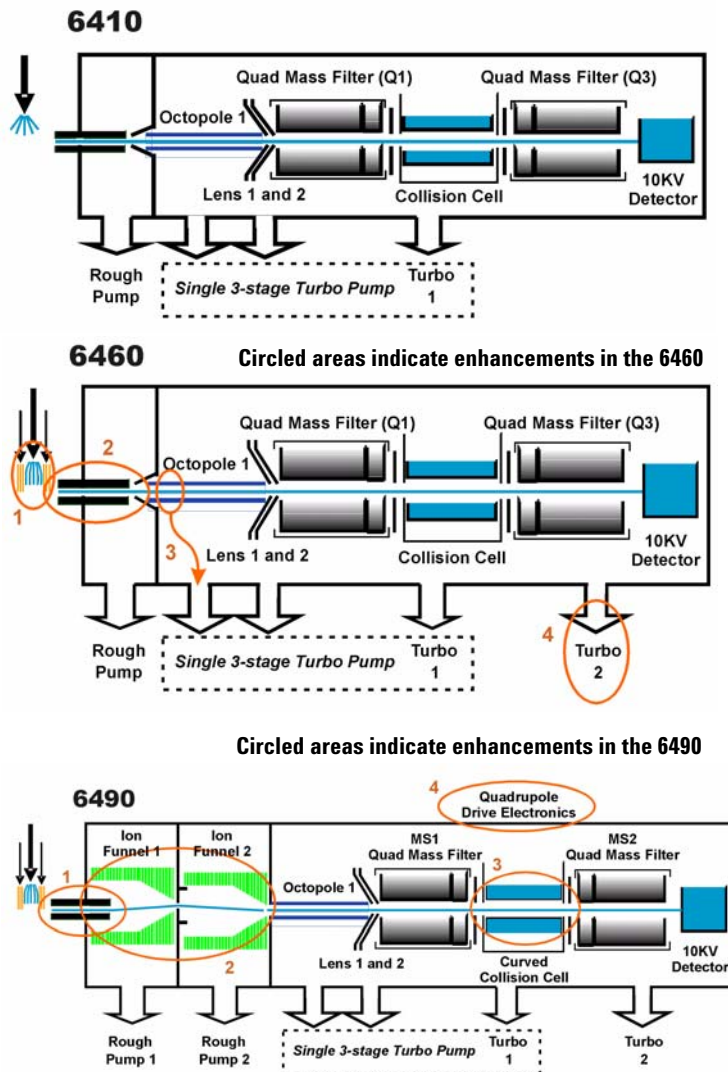

Figure 7 Innovative Enhancements in the 6460 and 6490
The triple quadrupole mass spectrometer consists of an ion source, enhanced desolvation technology, followed by ion optics that transfer the ions to the first quadrupole positioned to the right of it. A diagram of the current Triple Quadrupole LC/MS products is shown in Figure 7.
Ions are generated using an electrospray ion source where the analyte is simultaneously ionized and desolvated from the liquid matrix. The first of five (5) innovative Agilent enhancements is found in the application of Agilent Jet Stream Technology (denoted as 1 in Figure 7) which improves sensitivity via thermal gradient focusing and enhanced desolvation.
The desolvated ions then enter the mass spectrometer via an innovative resistive and highly inert capillary transfer tube (denoted as 2 in Figure 7) that improves ion transmission and allows virtually instantaneous polarity switching.
Further improving the sensitivity is improved pumping in vacuum stage 2 that allows more pumping speed behind the skimmer and improved ion capturing by first octopole (denoted as 3 in Figure 7). The ions next pass through optics and into the first quadrupole analyzer. The quadrupole analyzer consists of four parallel hyperbolic rods through which selected ions based on their mass to charge ratio are filtered.
The ions passing through the first quadrupole analyzer are then directed through an improved collision cell where they are fragmented. The collision cell is typically called the second quadrupole, but in this case, geometrically it is actually a hexapole filled with nitrogen, the same gas that is used as the drying gas. Agilent innovation has led to the design of a collision cell that has axial acceleration for high speed MS/MS analysis (denoted as 4 in Figure 7). Fragment ions formed in the collision cell are then sent to the third quadrupole for a second filtering stage to enable a user to isolate and examine product ions with respect to precursor ions.
Finally, the ions that pass through the third quadrupole are detected using a high energy detector. A second turbo pump has been added (denoted as 5 in Figure 7) to increase pumping speed and improve the vacuum which will further improve the signal to noise and enhance the limit of detection of the triple quadrupole.